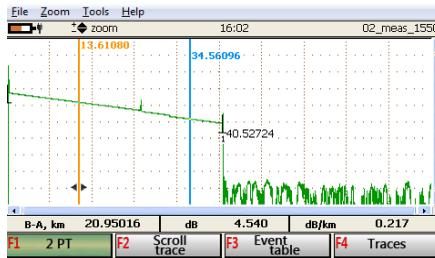

Figure 7.2
7.1.2 After the first measurement or opening a trace from storage memory the following window appears – the main window of the OTDR program as shown in Figure 7.2.